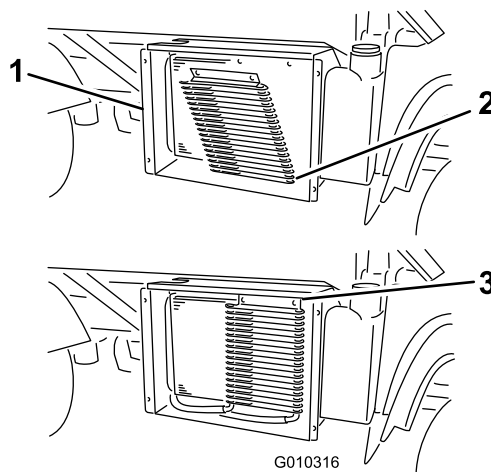

Figure 69
6. If equipped, rotate the latches and pivot the oil cooler away from the radiator (Figure 69).